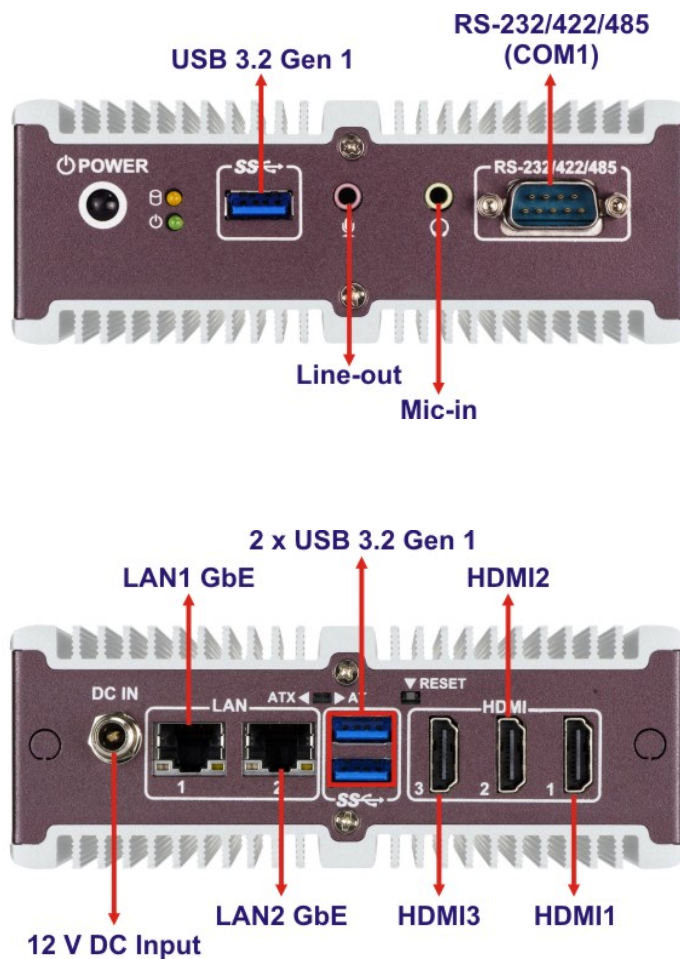

Figure 3-12: External Peripheral Interface Connectors
The locations of the external peripheral interface connectors are shown in **Figure 3-12**.
- CN Location:** See **Figure 3-12**
CN Location:	See Figure 3-12
- CN Location:** See Figure 3-12
CN Location: See Figure 3-12